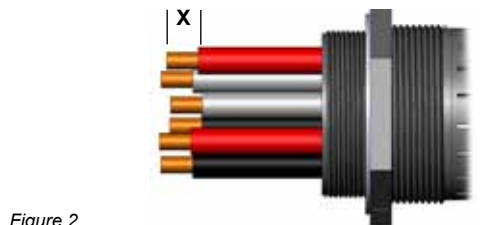

Figure 2
- Jacketed cable: Strip outer jacket. Strip insulation from discrete wires (See Table 1 & Figure 2)
- Discrete wires: Strip insulation from discrete wires (See Table 1 & Figure 2)